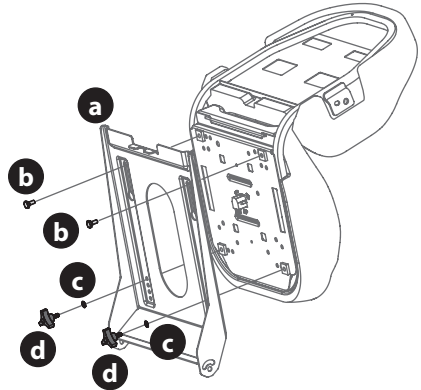

Figure 3
- For a Knob Adjust seat: insert bolts (b) in the rear holes and lock washer (c) and knobs (d) in the front. Tighten securely (Figure 3).